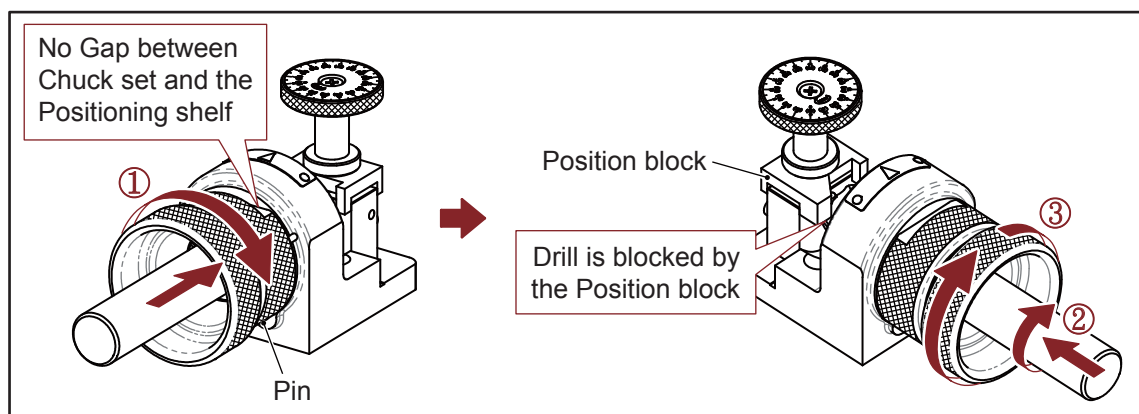

Fig. 7-2
3. Drill Positioning (Fig. 7-2)
- ① Insert the Chuck set into the Positioning Shelf, align slot of the clamping nut with the pin on the Positioning Shelf, then connect it closely without any interval and turn it clockwise to the end.
- ② Push the drill to the end and turn it by clockwise until it is blocked by the Position block.
- ③ Turn the collet holder clockwise and tighten lightly the Chuck set.
- ④ Rotate the Chuck set counterclockwise and take it out gently.
- ① Check the cutting edge of the drill to see whether scraps / iron ash existed - clean the drill.
- ② Check the scale of the Positioning Shelf. (See chapter “VII. The use of the Positioning Shelf”)
- ③ Check the diameter of a drill and adjust the scale according to drill diameter. (See chapter “VII. The use of the Positioning Shelf”)
- ④ Check the position block on the Positioning shelf, if it is damaged, please contact with your agent for replacement.
- ⑤ When adjusting the length position, make sure the chuck set is tightly connect to the shelf without gap. (See page 11, Fig 7-2)